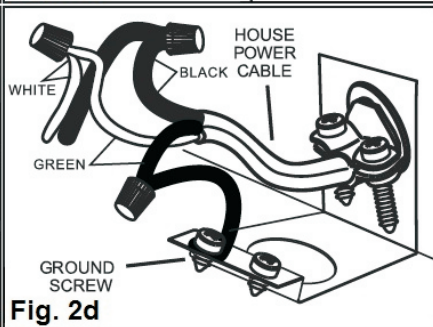

Fig. 2d
- h. Connect the color coded wires. (Fig. 2d)